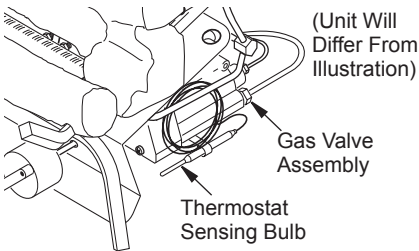

Figure 59 - Location of Gas Valve Assembly and Thermostat Sensing Bulb
1. Locate the gas valve assembly and thermostat sensing bulb (see Figure 59).